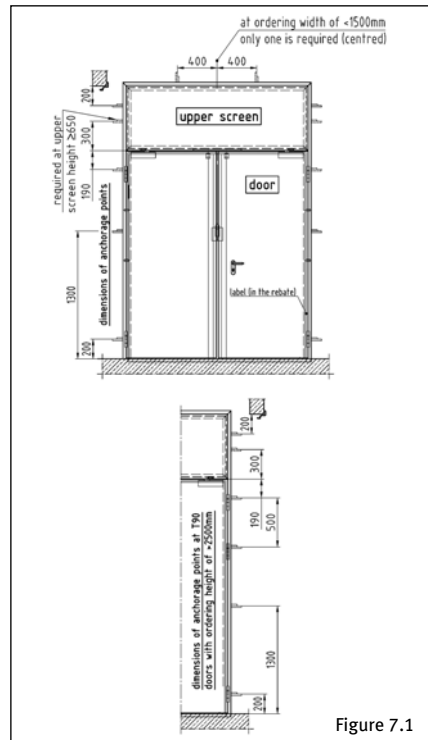

Figure 7.1
- 11.2 Procedure as per Chapter 3. Refer to Figure 7.1 for the height of the fastening points with doors that have an upper screen.